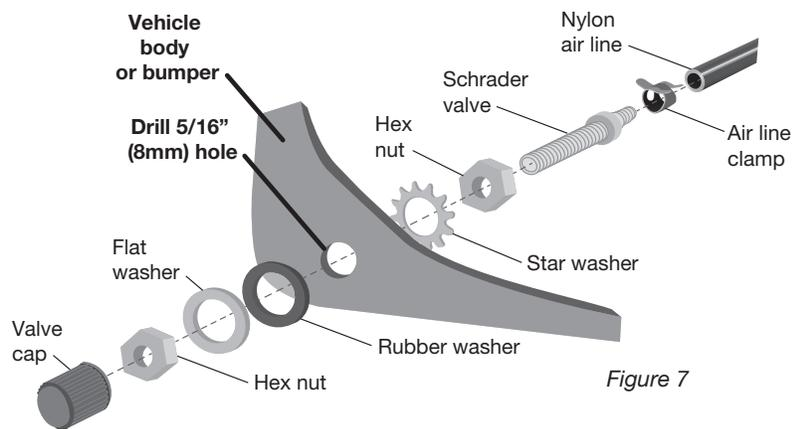

Figure 7
4. Drill a 5/16" (8mm) hole for the Schrader valve and mount as shown (Fig. 7). Install the air line on the Schrader valve first. The rubber washer serves as an outside weather seal.